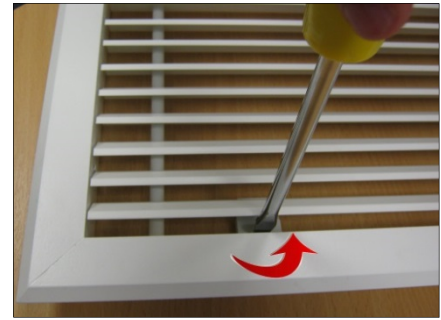

Fig 6
**Step 1** Open the hinged inlet grille using a flat bladed screwdriver to release the quarter turn fasteners (see Fig 6). There are two fasteners on the T1000R unit and three fasteners on T1500R and T2000R units. Before lifting the grille frame into position, remove four (six on T1500R/T2000R) M6 bolts fitted on the inside edge of air curtain.